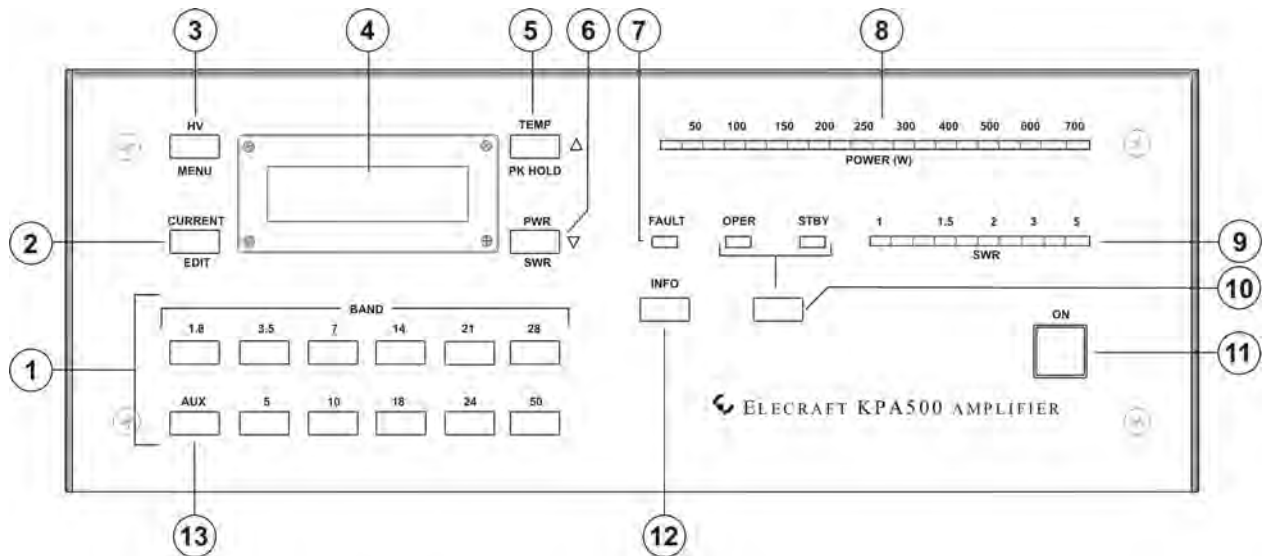

Figure 5. KPA500 Front Panel.
- Connect the mains supply cable to ② on the rear panel and plug the cable into the mains outlet.
- Position the rear-panel power switch ③ to On (I).
- Tap the front panel **ON** switch (11 on Figure 5). The LCD should light.
⚠ The red FAULT LED (7 on Figure 5) will light when you tap the **ON switch to protect your KPA500 if the power supply voltage is too far above the upper limit. Use a power transformer tap lower on the above table and retry the test.**